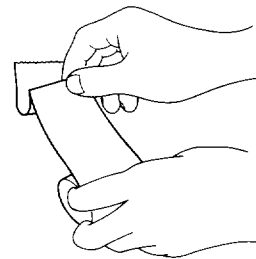

Figure 7-3
- (3) Pull out the paper one revolution of the roll and fold it (see Figure 7-3).